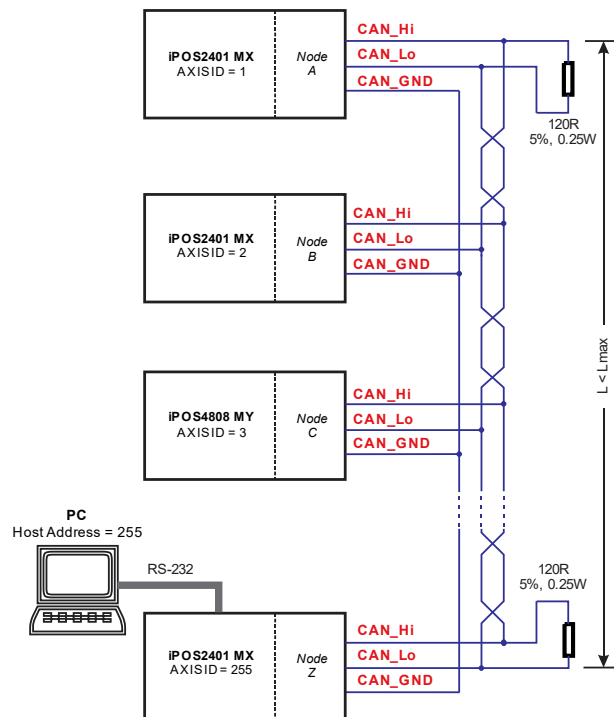

Figure 3.22. Multiple-Axis CAN network
1. The CAN network requires a 120-Ohm terminator. This is not included on the board. Figure 3.22 shows how to connect it on your network